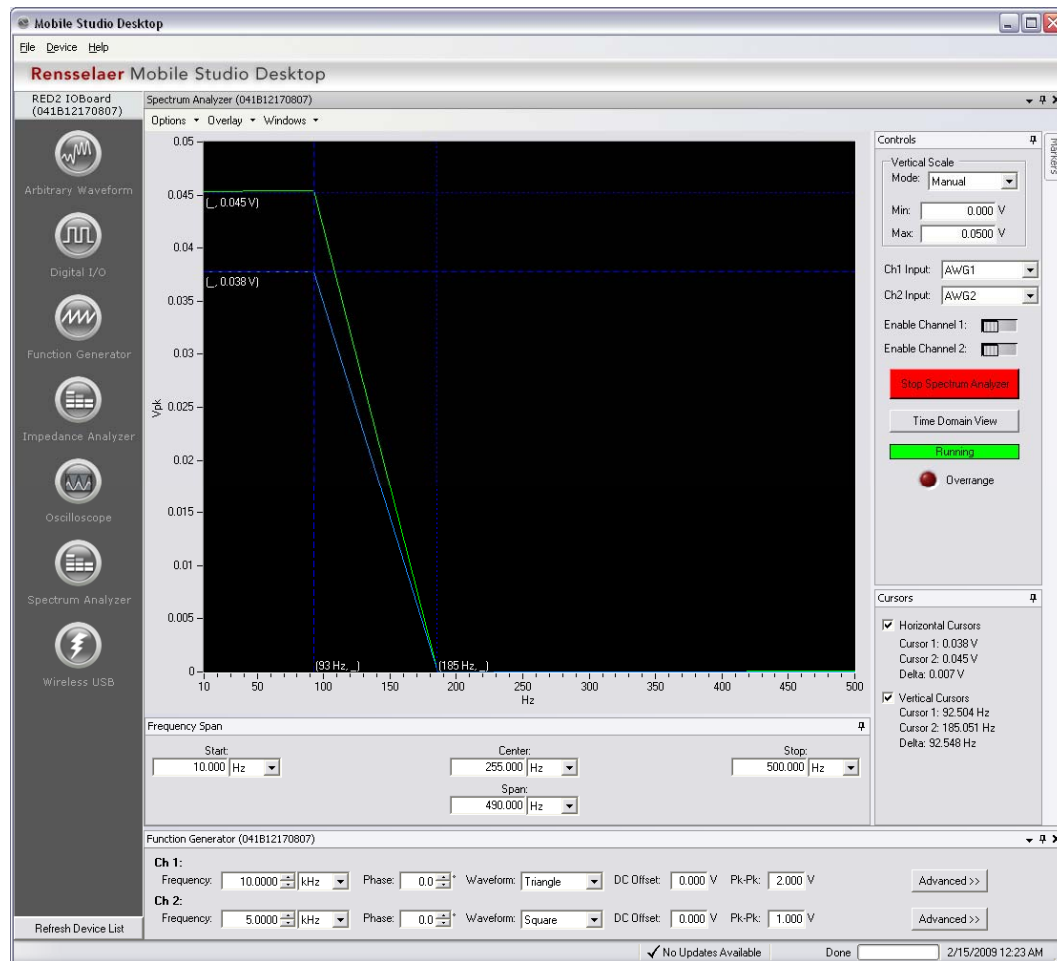

Figure 4-4: Cursor Measurements
- 7) The cursors can be adjusted to measure the desired points by clicking and dragging the lines to the desired positions on the screen, shown in Figure 4-4. The differences in the positions of the cursors is calculated and displayed along with the values at each of the cursors in the “Cursors” panel.